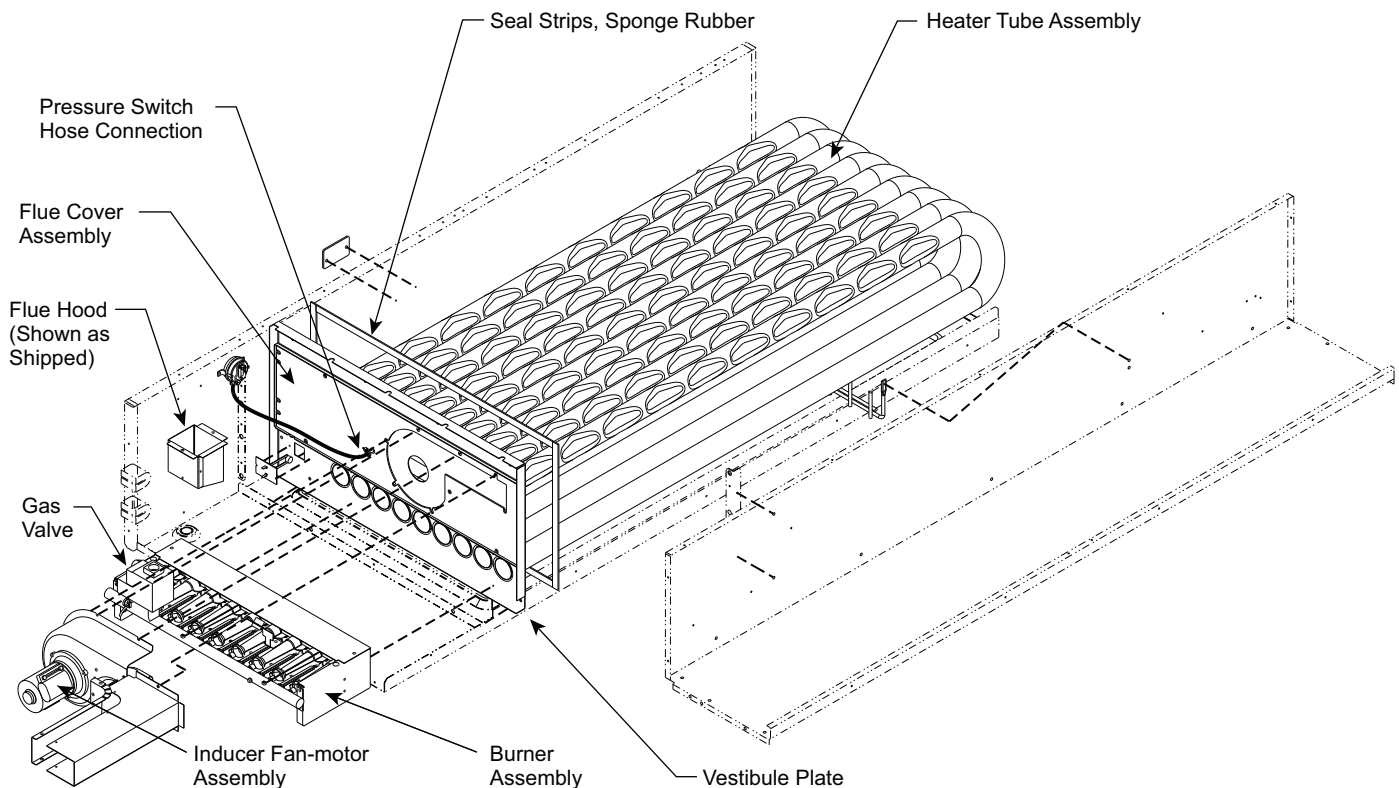

Fig. 54 — Heat Exchanger Assembly
1. Remove the combustion blower wheel and motor assembly according to directions in Combustion-Air Blower section. See Fig. 54.
2. Remove the seven screws attaching the induced-draft motor housing to the vestibule plate. (See Fig. 54.)
See Fig. 54, 56, 57, 58 and 59.
9. Remove the two screws attaching the burner rack to the vestibule plate (see Fig. 54).
10. Remove the pressure switch hose from the connection on the flue cover assembly (see Fig. 54).